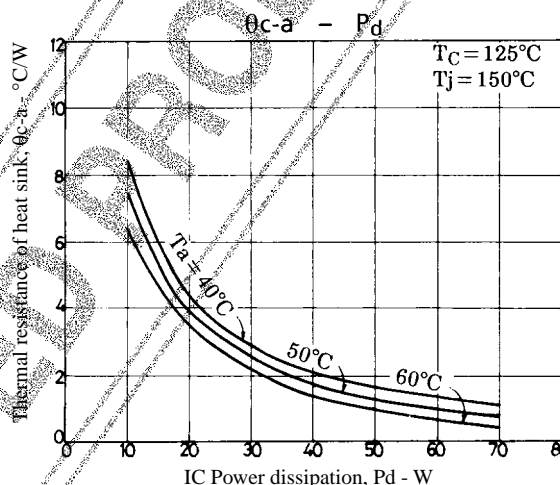

Figure 3. STK4162II θc-a - Pd
Figure 3 shows the relation between Pd and θc-a given from (1) and (3) with Ta as a parameter.
The thermal resistance of a heat sink is obtained from Figure 3.